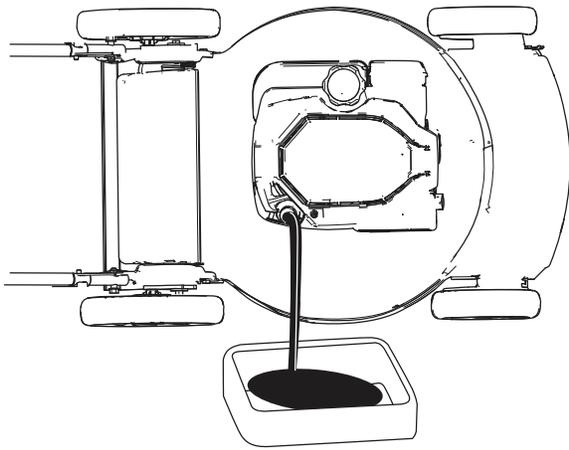

Figure 21
4. Tip the machine onto its side (so that the air filter is up) to drain the used oil from the oil-fill tube (Figure 21).